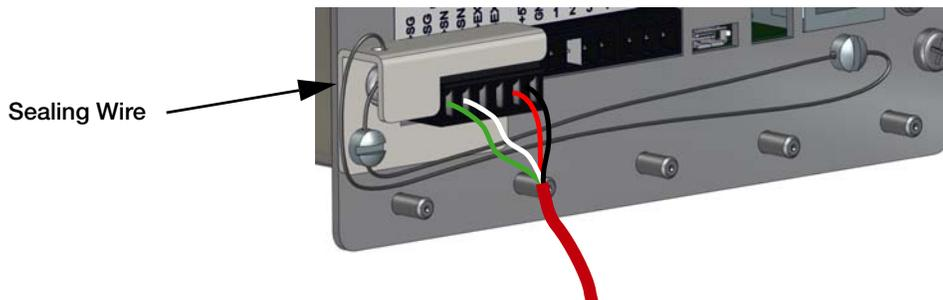

Figure 2-22. Install Sealing Wire
1. Place the sealing wire through the fillister head screws on the back panel, then through the fillister head screw at the bottom of the indicator, as shown in Figure 2-22.